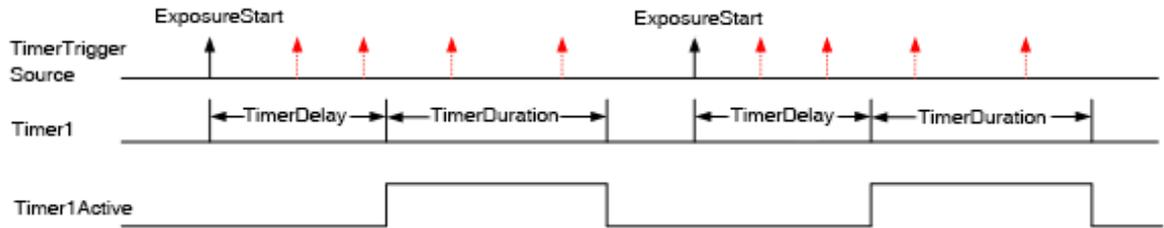

Figure 8-66 The relationship between Timer1Active and the ExposureStart signal
- 1) From the start of the timer to the full output of Timer1Active, this process will not be interrupted by the ExposureStart signal, and Timer1Active must be completely output to start timing according to the next ExposureStart signal. As shown in the Figure 8-66, the red ExposureStart signals are ignored.